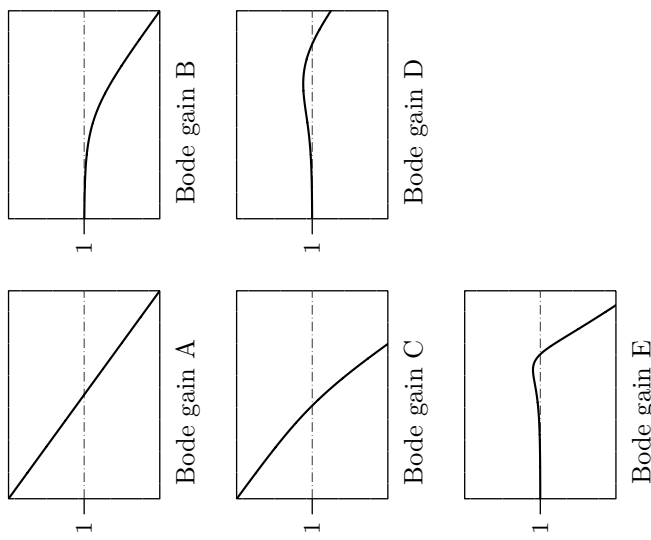

Figure 4.9a. All diagrams have equal scaling.
4.9 Combine the transfer functions below with the Bode plots in Figure 4.9a.